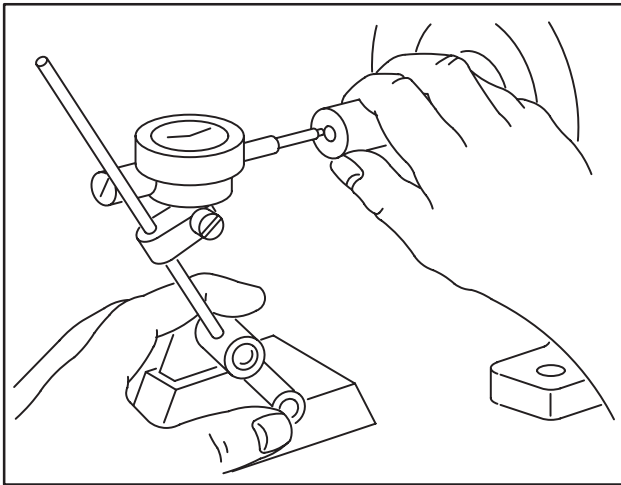

Fig. 150 – CHECKING END PLAY WITH DIAL INDICATOR
6. Repeat both steps to verify dial indicator reading, Fig. 150.